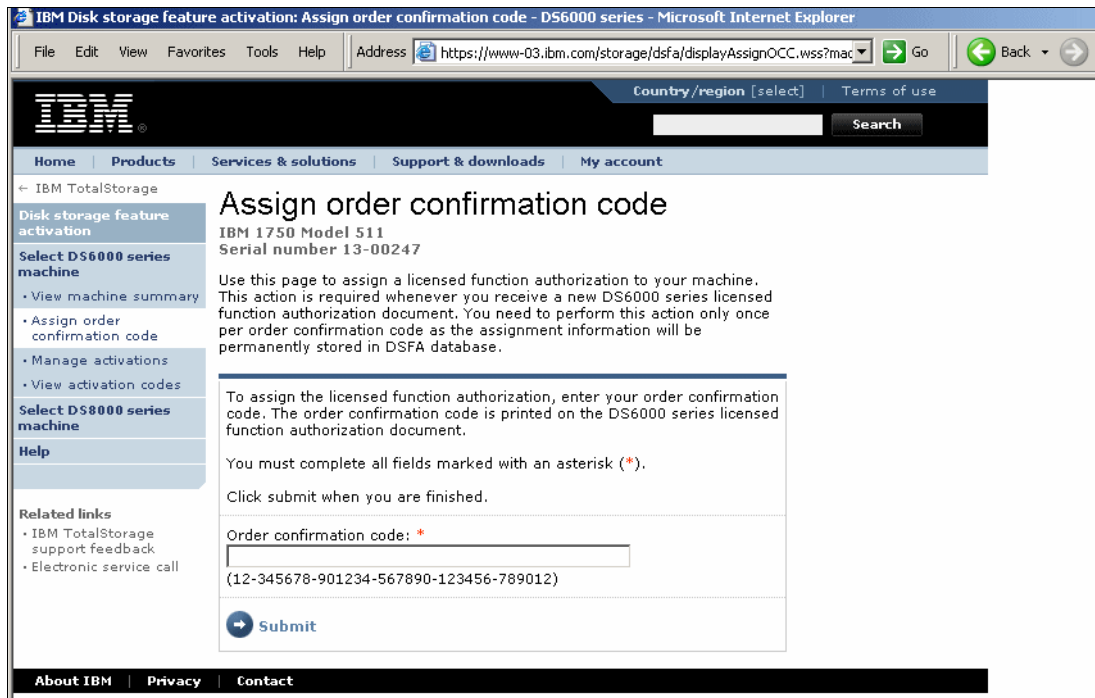

Figure 8-6 DS6000 assign order confirmation code window
- Now select the option to **Assign order confirmation code**. This should open the Assign order confirmation code window, as shown in Figure 8-6. Enter the Order Confirmation Codes (OCCs) supplied either with your new system or your upgrade. Enter them one at a time, until all of them have been entered. Make sure to follow the instructions in the window.